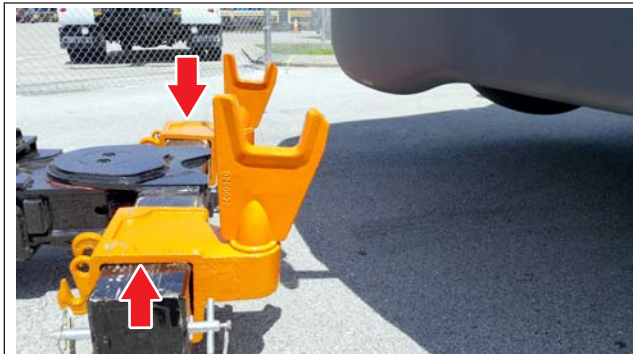
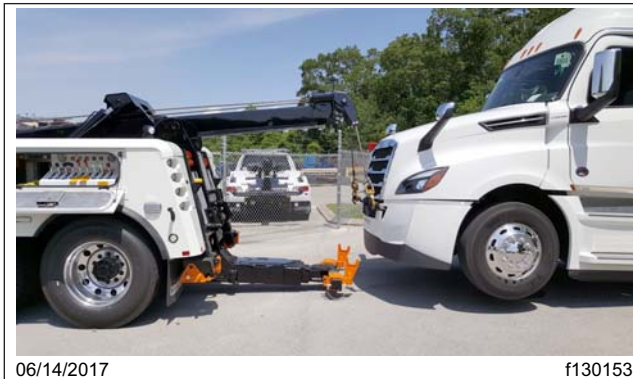

Fig. 24.12, Lift Adaptors Installed on the Crossbar
Fig. 24.13, Backing the Tow Truck with Lift Adaptors on the Crossbar
8. Use mid-rise or high-rise forks, or lift adaptors (part number 0200020) on the crossbar to provide clearance for the aerodynamic bumper. See Fig. 24.12 and Fig. 24.13.